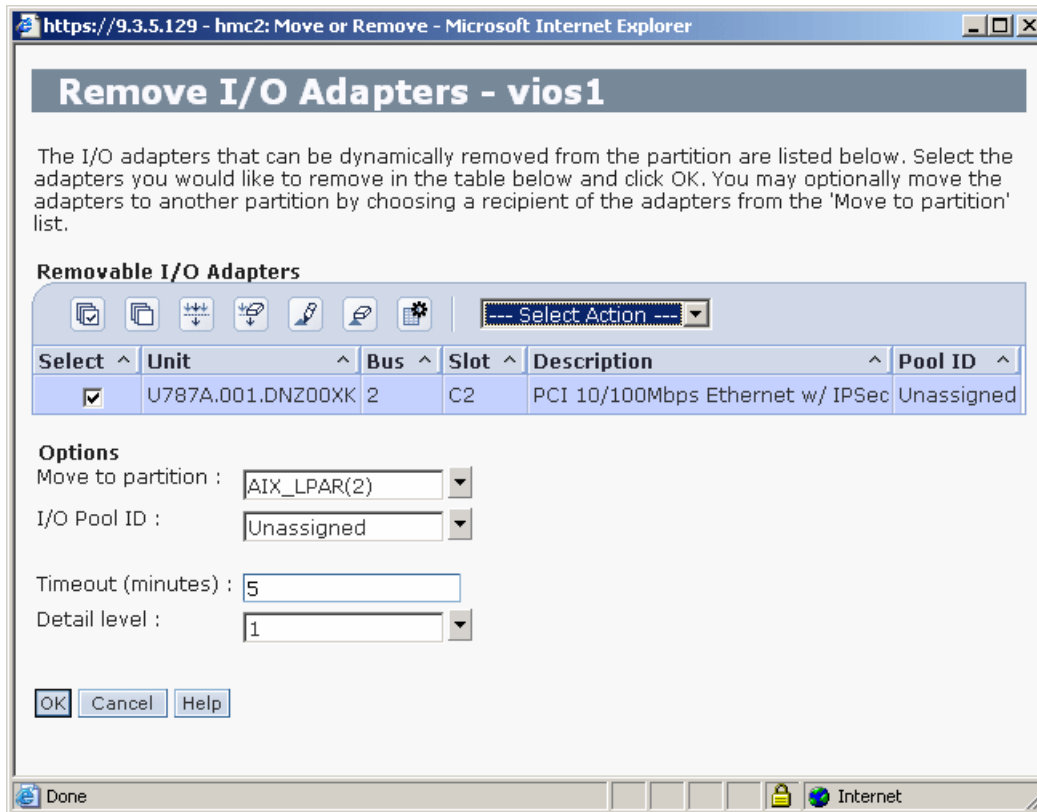

Figure 12-13 Selecting adapter in slot C2 to be moved to partition AIX\_LPAR
2. Select the adapter to be moved and select the receiving partition as shown in Figure 12-13.